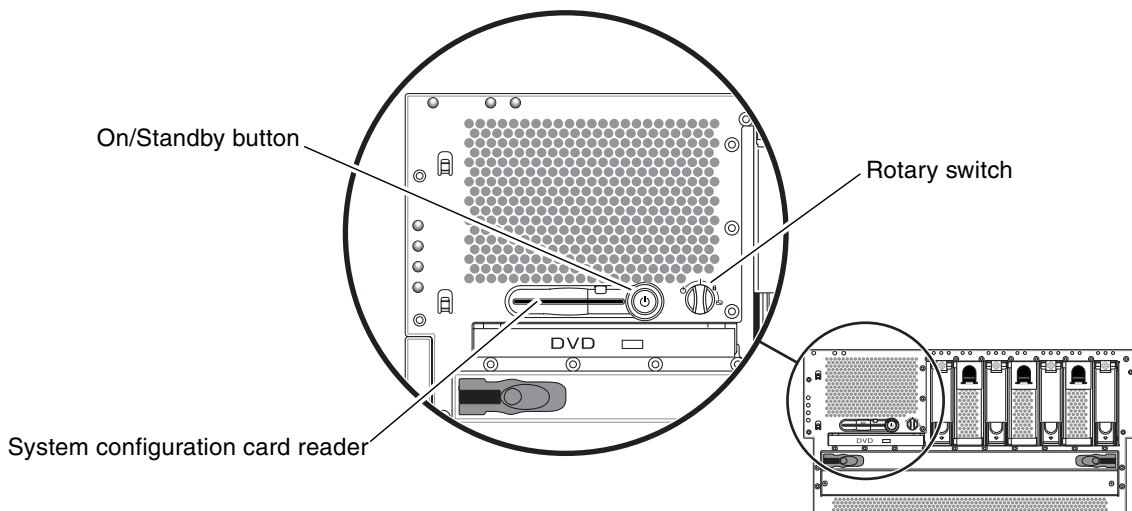

FIGURE 4-4 Locating the System Configuration Card Reader
4. **Locate the system configuration card reader** (FIGURE 4-4).
1. Insert the system configuration card into the system configuration card reader, which is at the left of the On/Standby button (FIGURE 4-4).